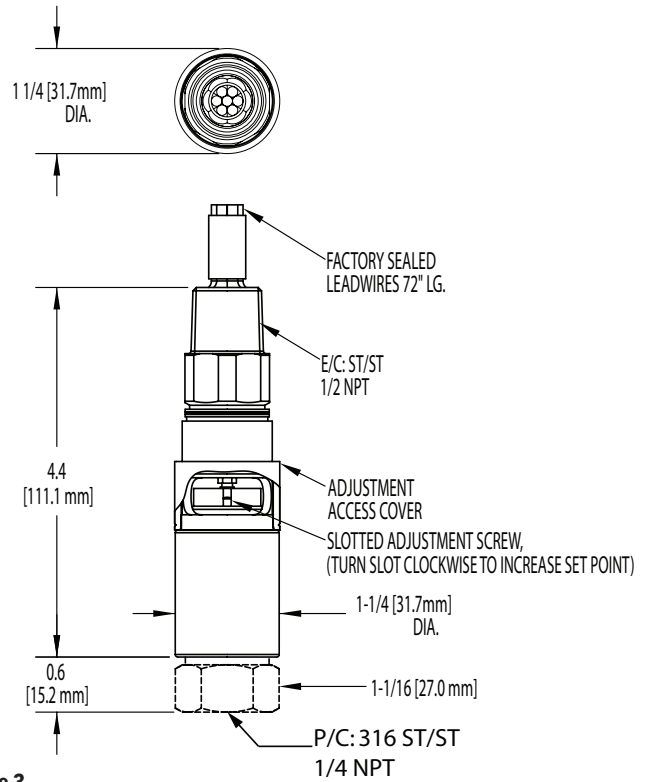

Figure 3
4. Insert screwdriver into adjustment slot and turn clockwise to **increase** setting or counterclock-wise to **decrease** setting. (See Figure 3)